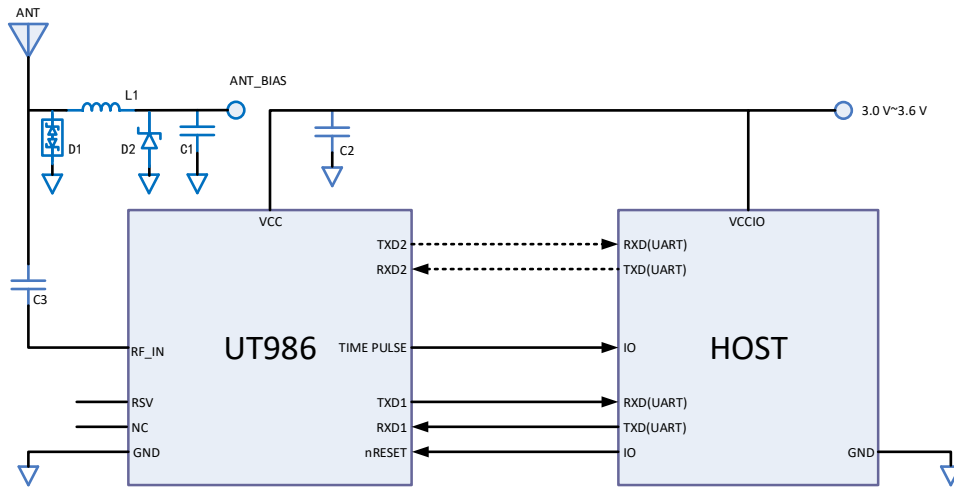

Figure 4-2 UT986 Reference Circuit
- It is recommended to use the same power supply for the VCC of UT986 and the IO of the host, so as to avoid abnormal startup caused by the IO leakage between UT986 and the host. The power supply of UT986 VCC ranges from 3.0 V to 3.6 V, and the input decoupling capacitor C2 (see Figure 4-2) needs to be more than 10 μ F. Other capacitors, such as 1 μ F/100 nF/ 100 pF, can be connected in parallel.